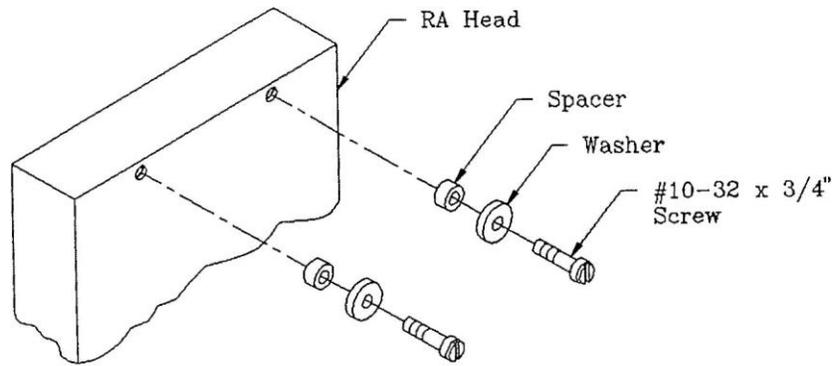

Figure 6
- A. Remove the two 10-32 x 1/4" screws from the rear top of head. Assemble the washer and spacer to the 10-32 x 3/4" screw. Thread the screw into the tapped hole (10-32) on the rear top of the analgesia head. Turn the screw until it is tight. Repeat for the other screw. (See fig 6).